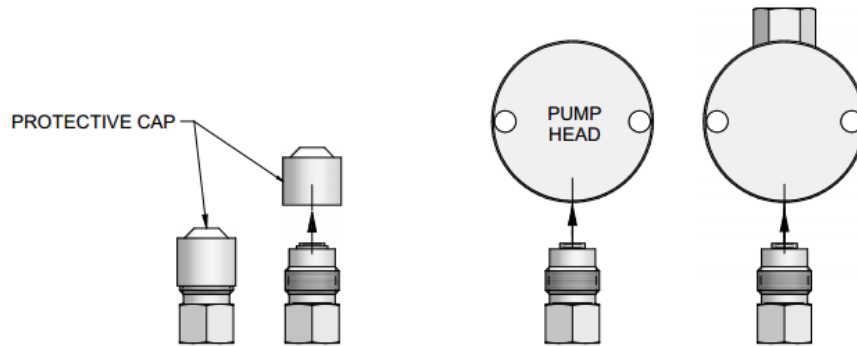

Figure 13, New Check Valves from package and proper orientation.
If this procedure does not return the pump to proper performance, the check valves should be replaced. An example of new check valves from their package can be seen in *Figure 13* below.
3. Hold one new check valve assembly as shown in *Figure 13* and unscrew the protective cap. With the check valve assembly maintained in the above position, thread it into the proper pump head port until it is snug. Install the other check valve assembly similarly.